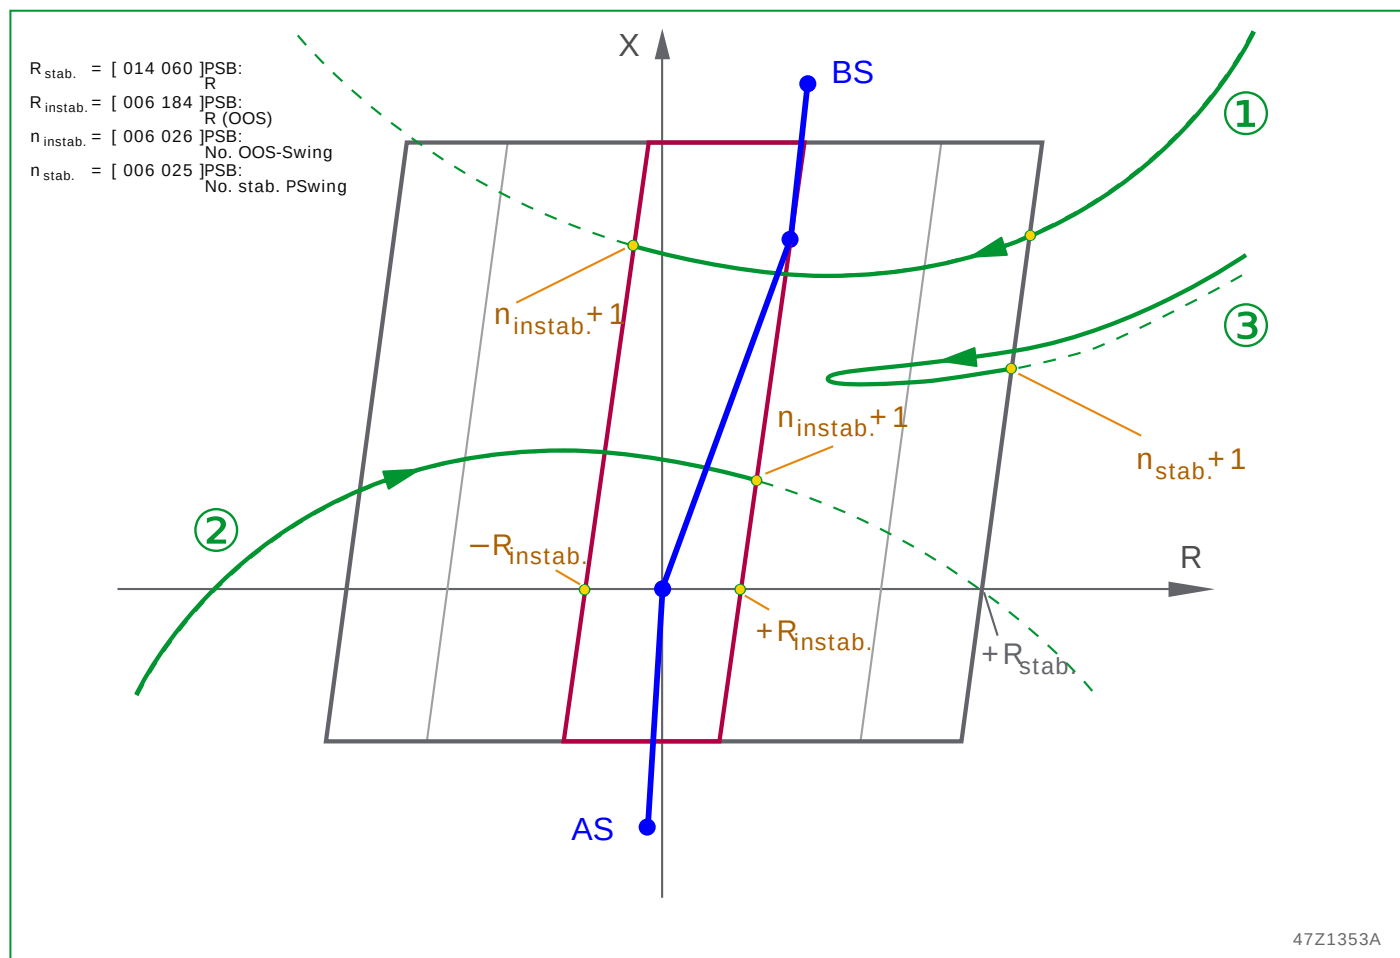

Fig. 3-172: Out-of-step detection and counter incrementing conditions.
Inside the power swing detection zone, 2 more lines are defined by a settable resistance PSB: R (OOS) to determine an out-of-step condition (see Fig. 3-172, \(p. 3-231\)). Thus this decision could be taken before leaving the power swing detection zone.
An out-of-step condition is determined if the apparent positive-sequence impedance moves along its trajectory from the right side into the power swing detection zone and then crosses the left side OOS detection line (trajectory ① in Fig. 3-172, (p. 3-231) below), or vice versa (trajectory ②). In both cases the out-of-step counter n_{OOS} is incremented by 1.